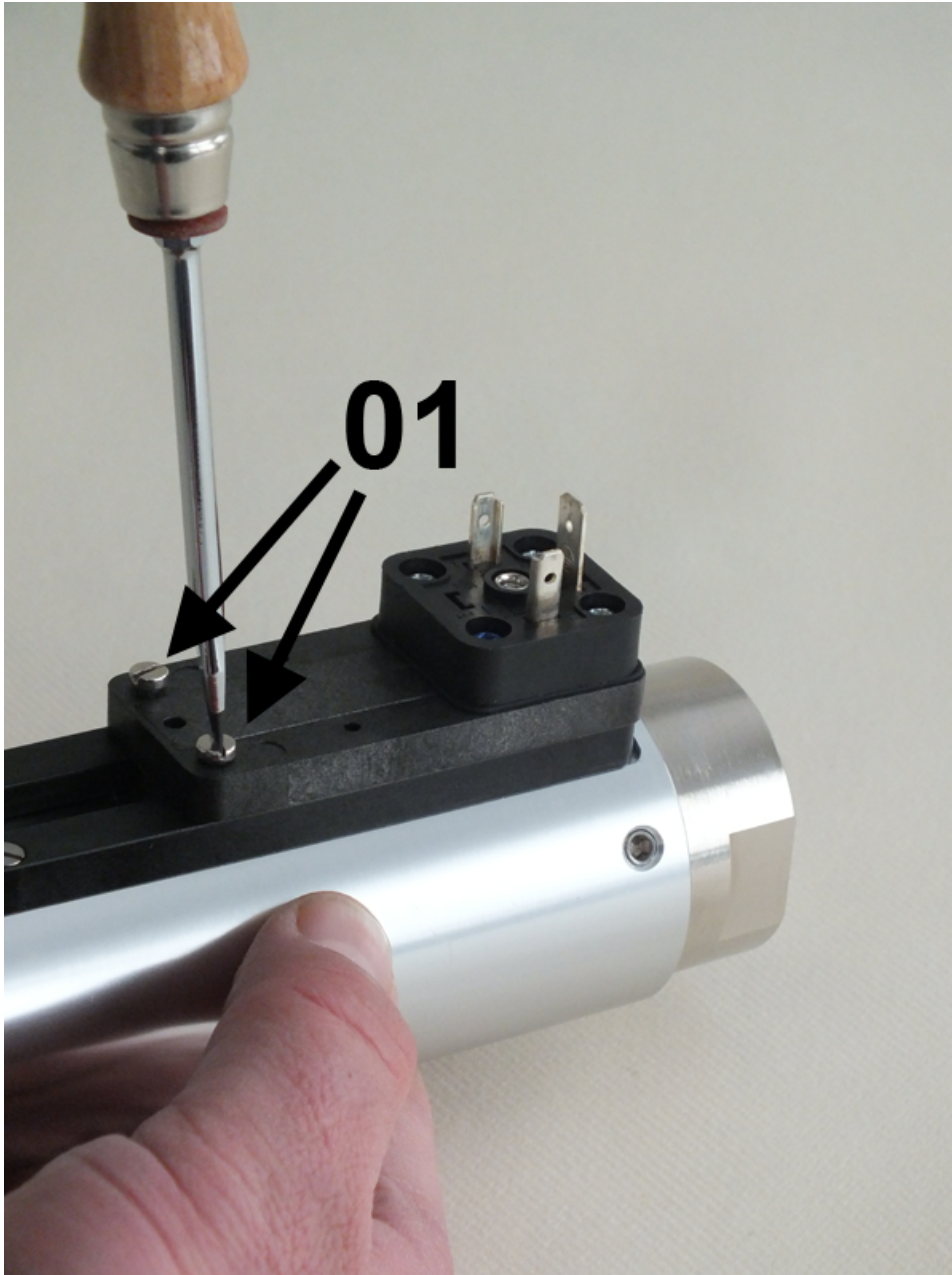

Fig. 61: Loosen set screws
- 3.** Using a flat-bladed screwdriver (*Fig. 61/1*) loosen the set screws of the switch contact until it can move freely.
- 11.** ▶ Tighten the set screws (*Fig. 61/1*) observing the proper tightening torque of the screws (→ *Chapter 11.1 "Tightening torque" on page 89*).